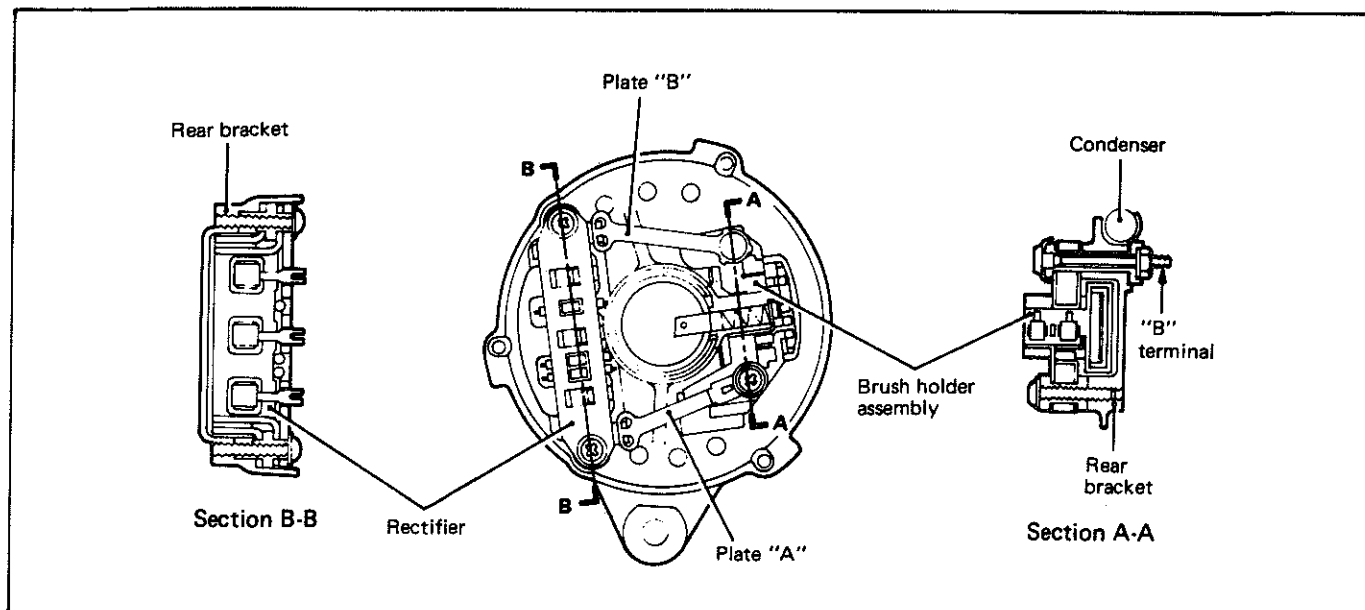

Fig. 11—Removing rectifier and brush holder
- (6) Unsolder the plates "B" and "L" from the rectifier assembly.
- (7) Remove the mounting screw and remove the electronic voltage regulator and brush holder assembly — refer fig. 11. The regulator and brush holder cannot be separated.
- (8) Remove the rectifier assembly.